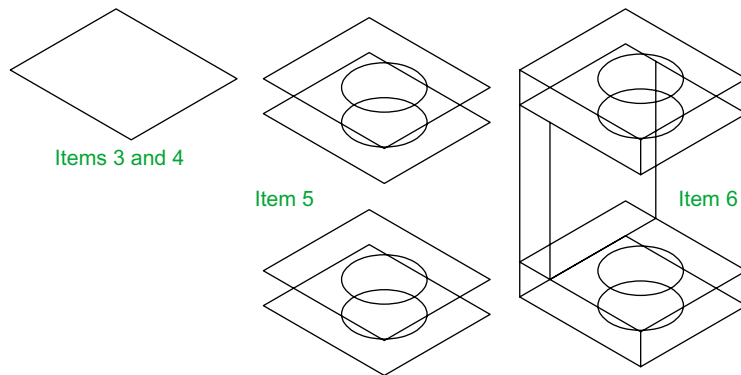

Fig. 7.21 First example – isometric drawing – items 3, 4, 5 and 6
4. Call **Ellipse** tool and set to isocircle and add the isocircle of radius 20 centred in its correct position in the outline of the top (Fig. 7.21).
6. Add lines as shown in Fig. 7.21.